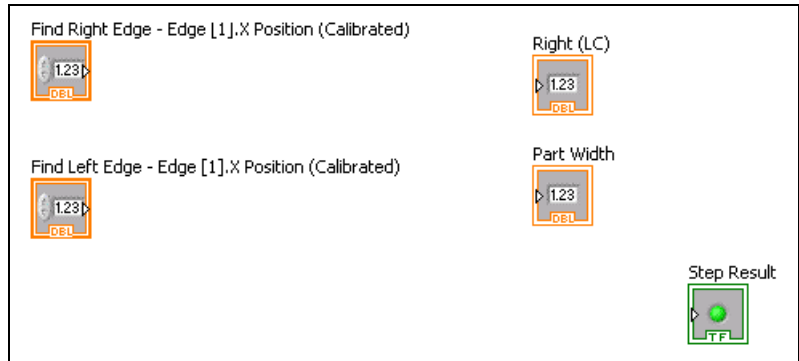

Figure 5-8. Arranging Diagram Elements
13. To simplify the process of connecting the diagram elements later in this chapter, arrange the elements into the configuration shown in Figure 5-8 by dragging them to their new positions.